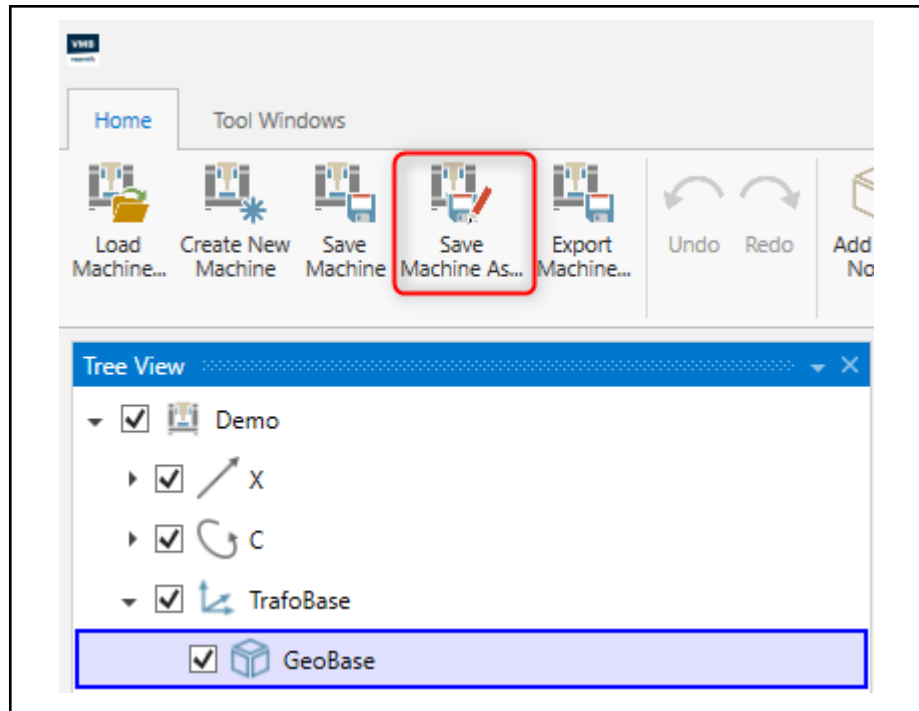

Fig. 12-9: Saving the kinematic model
**Save** The required kinematic structure for the example is now complete. To save this structure, go to "Save Machine As" (fig. 12-9 "Saving the kinematic model" on page 56).